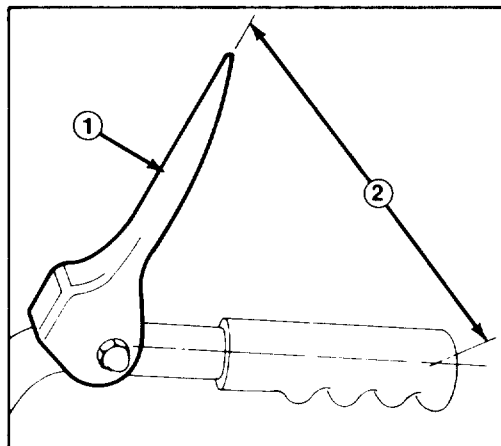

Figure 4
4. Check the distance between the center of the handle and top of the control lever (Fig. 4). Distance should be 5½ inches (14 cm).